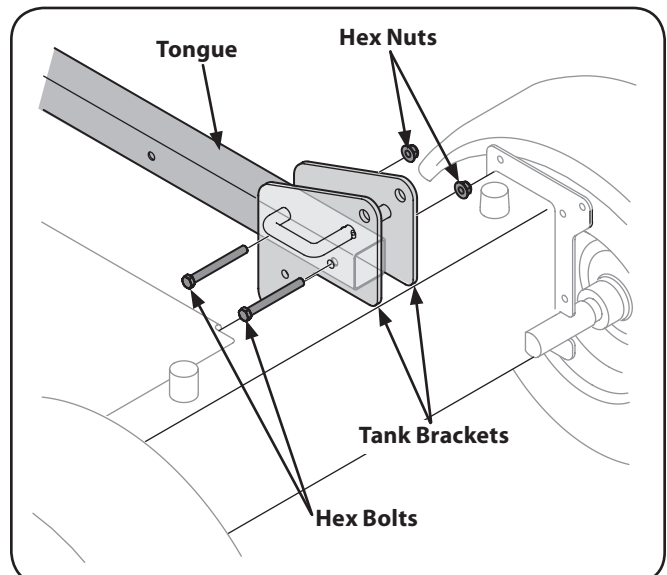

Figure 3-2
9. With the log splitter still secured to the bottom of the crate, remove two hex bolts and hex nuts from the tank bracket and remove the piece of wood inside the tank brackets. See Fig. 3-2.
- Align the holes in the tongue with the holes in the tank bracket and secure with the hardware just removed. See Fig. 3-2.